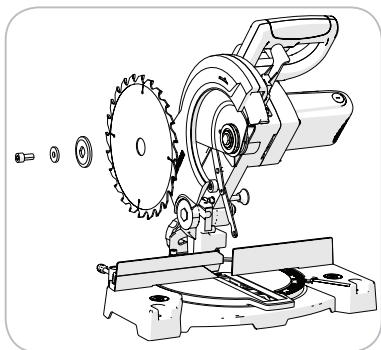

Fig. 26
- Using the supplied Hex Key, release the arbor screw and remove the washer and blade flange and the blade from the arbor. **(Fig. 26)**